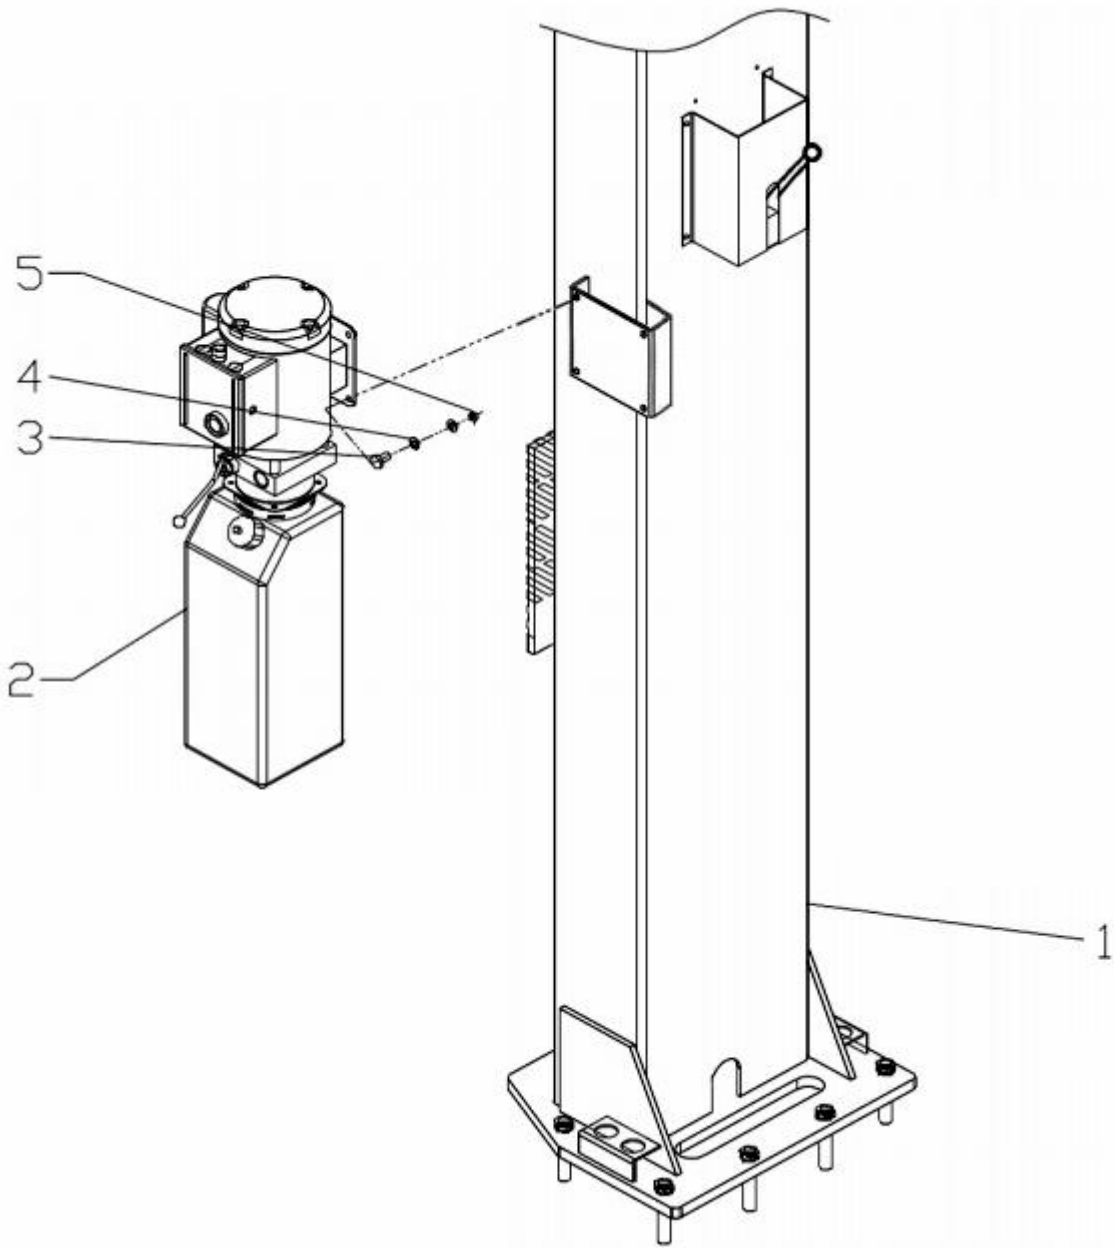

Fig.30
M. Install power unit (See Fig. 30)